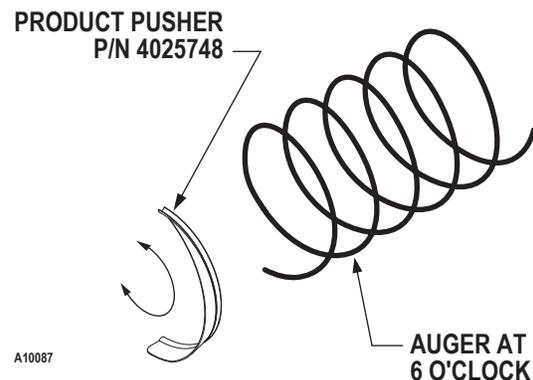

FIGURE 3. MOTOR & AUGER
2. □ Disconnect the tray harness and undo any clamps. See Figure 3 (A10075).
Order product pushers p/n 4025748. Snaps on to end of auger. See Figure 3. Test vend and adjust if necessary.